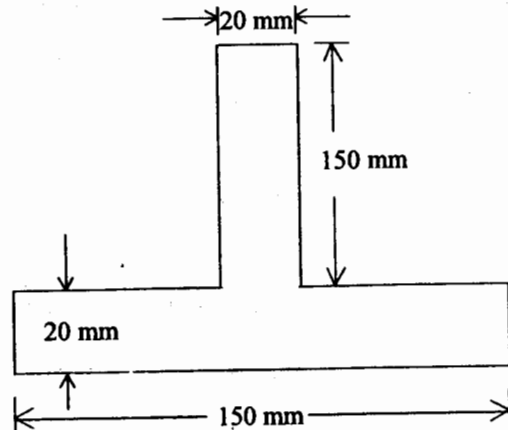

Fig. 4
- (e) The cross section of a 4 m simply supported beam is shown in Fig. 4. Determine the central concentrated load, which will cause a tensile stress of 15 MPa. Also determine corresponding compressive stress.